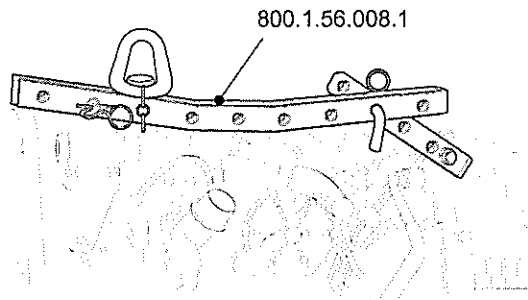

Fig 2 Typical engine lifting tackle installation
9.6 Fit the lifting tackle 800.1.56.008.1 (see Fig 2) to the two lifting eyes provided on the top of the engine.
10.2 Fit the lifting tackle 800.1.56.008.1 (see Fig 2) to the two lifting eyes provided on the top of the engine.